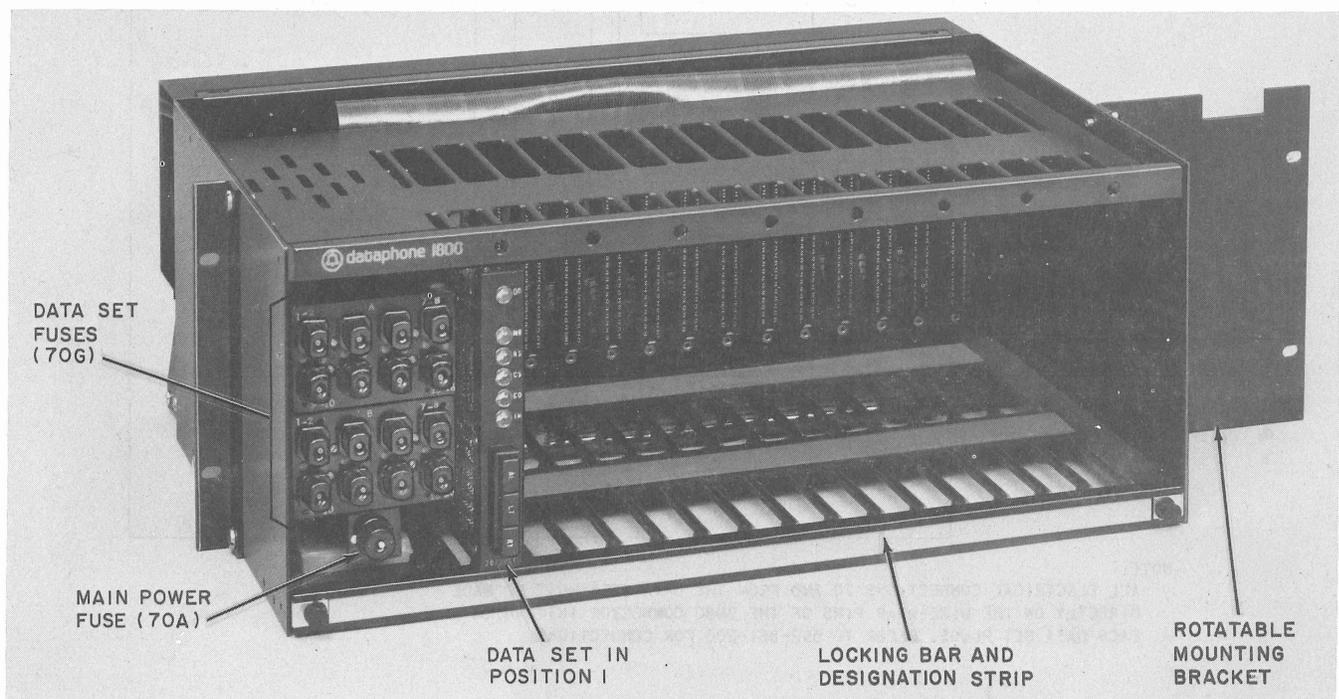

Fig. 3—Front View of 40B1 Data Mounting
**2.04** The 40B1 data mounting (Fig. 3) has the same data set capacity as the 39A1; however, Electronic Industries Association (EIA) interface connection to the data sets is made on 25-pin KS-19087-L6 connectors. The customer must provide a cable terminated in a Cinch or Cannon DB-19604-432 plug equipped with a DB-51226-1 hood. Connections to telephone lines are made on 50-pin connectors labeled J1 and J2 on the backplane. Each data set is inserted through guides in the top and bottom of the mounting into a 908L connector. The data